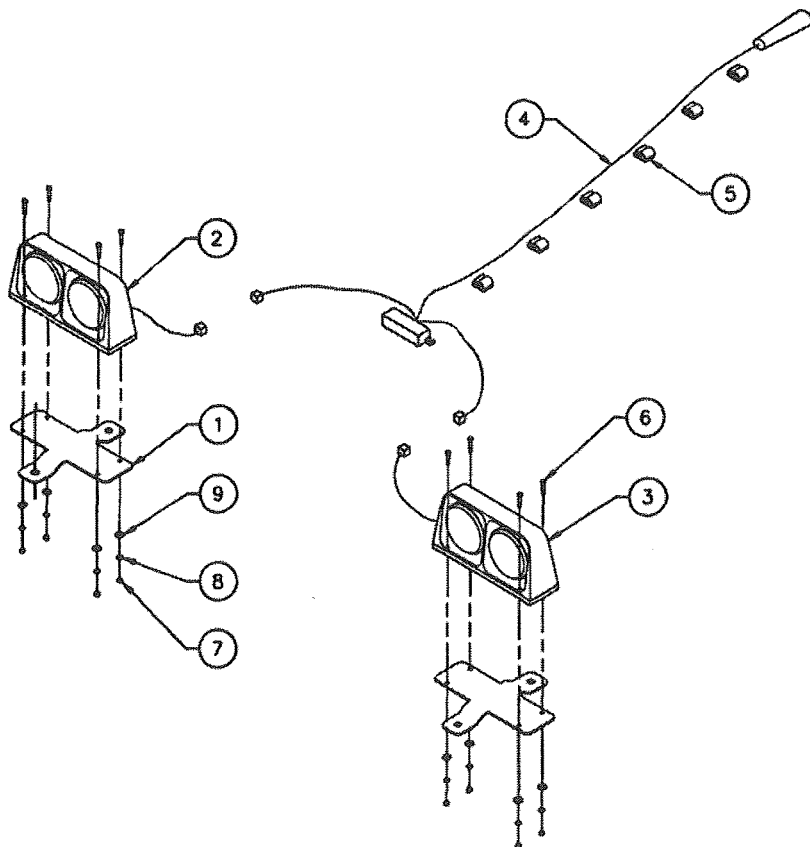

Figure 59. Safety Light Kit Diagram (Non-End Tow)
2. Attach dual safety lights (Figure 59) to their bases using 1/4 NC x 1" hex bolts, washers and nuts provided. Make sure that light lenses are in the correct position in relation to direction of equipment travel: amber lenses on the outside, red lenses on the inside facing rear of shredder.
4. Run wiring harness along top of shredder and secure with enclosed adhesive-backed clamps (5) approximately every two feet.